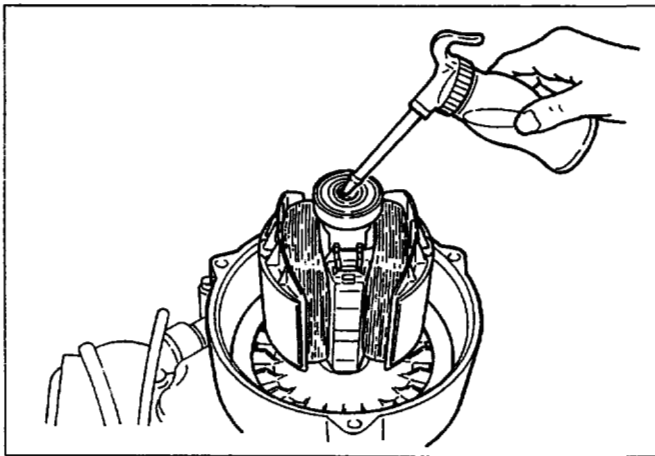

Fig. 10-22
<p>(3) Use a bolt and oil as a tool for pulling out rotor in the following procedures :</p> <ol style="list-style-type: none"> 1. Pour engine oil into the center hole of rotor shaft. Fill with oil to the shaft end. (See Fig. 10-22.) 2. Prepare a bolt with the following thread size : M8 × P 1.25 3. Apply a few turns of seal tape around the tip of the bolt. (See Fig. 10-23.)